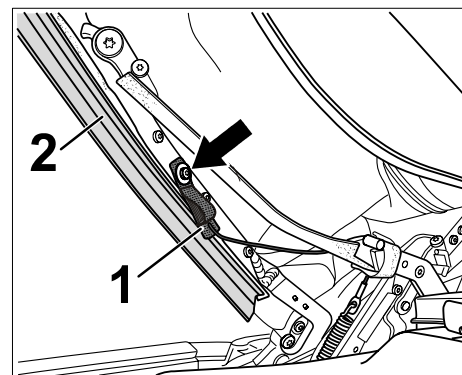

Figure 12
- 3.6 Screw the end piece $\Rightarrow$ Figure 12 **-Pos.1-** onto the tension bow for the convertible top $\Rightarrow$ Figure 12 **-Pos.2-** again $\Rightarrow$ Figure 12 **-Arrow-**. **Tightening torque 4 Nm (3ftlb.)**
Check that the end piece of the tension rope $\Rightarrow$ Figure 12 **-Pos.1-** is parallel to the tension bow or is at a slight downward angle as shown in $\Rightarrow$ Figure 12 .